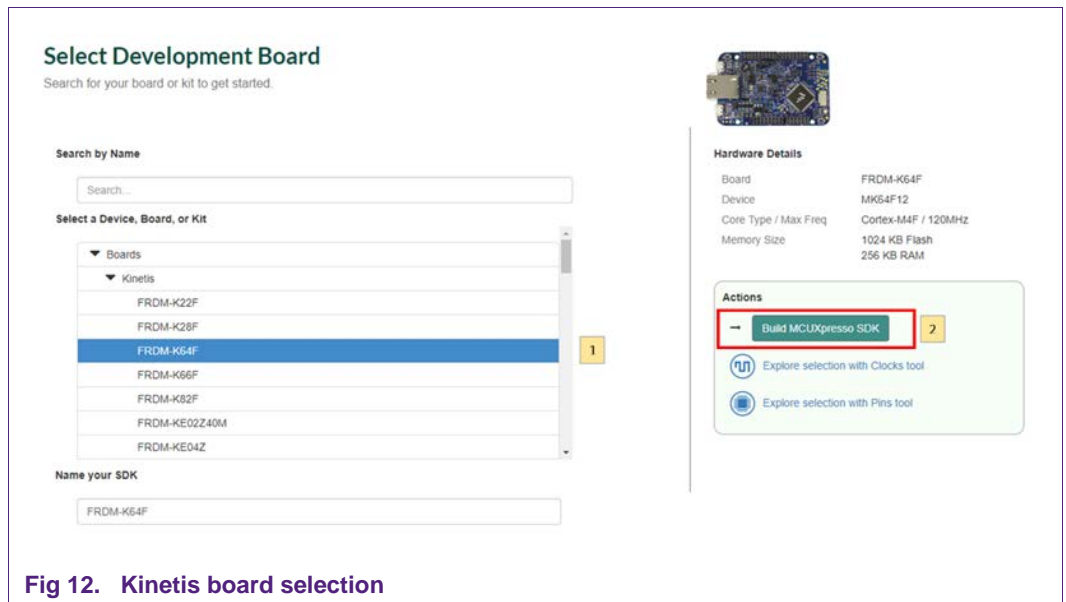

Fig 12. Kinetis board selection
1. Select your Kinetis FRDM board and click on ‘Build MCUXpresso SDK’; in this case the selected board is the *FRDM-K64F*. See Fig 12.